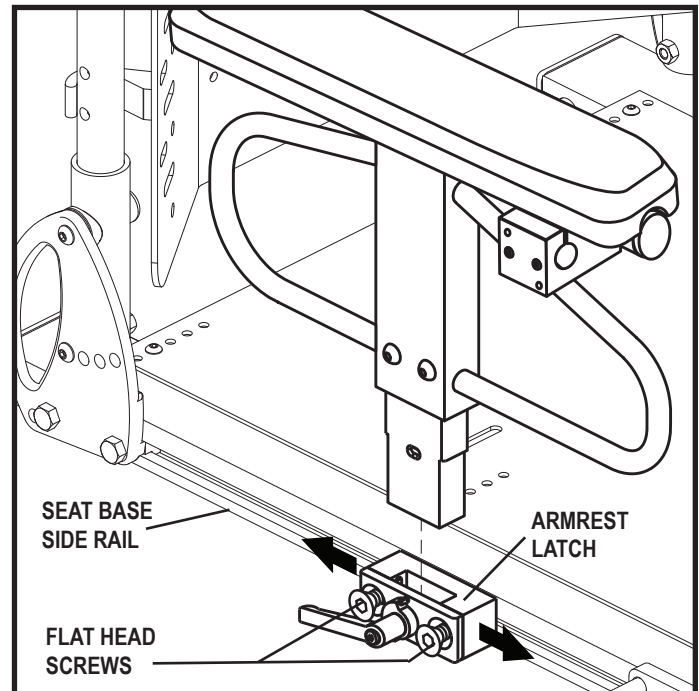

Figure 22. Heavy Duty Drop-In Armrest Position Adjustment
2. Loosen the flat head screws that fasten the armrest latch to the seat base side rail. **See figure 22.**
5. Install the armrest in the armrest latch. **See figure 22.**